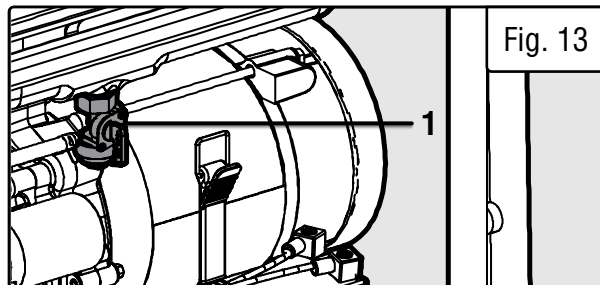

Fig. 13
3. Turn the fuel valve (Fig. 13 - 1) to the OFF position.